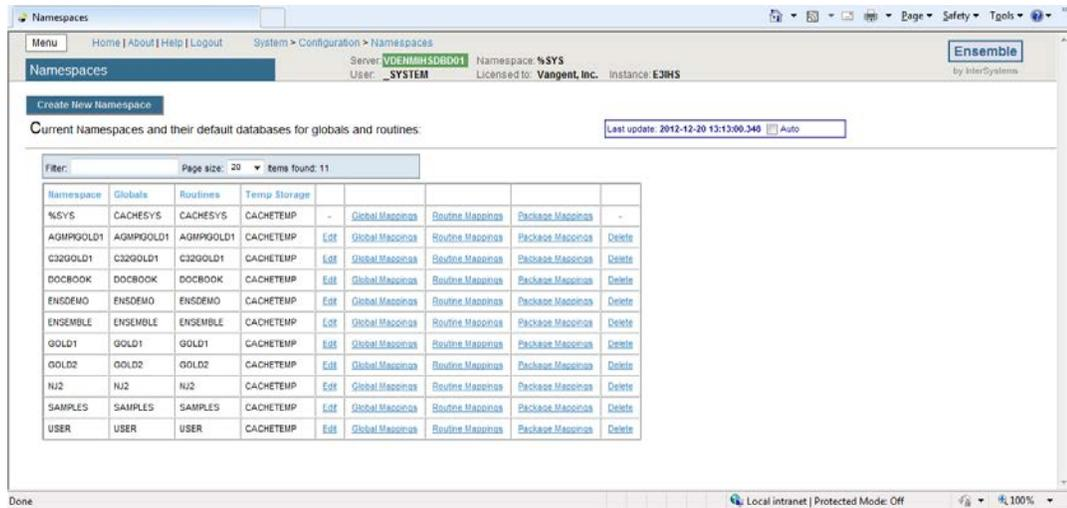

Figure 4-4: Namespaces page
- From the **System Configuration** menu option, click **Namespaces** to open the **Namespaces** page, as shown in Figure 4-4.